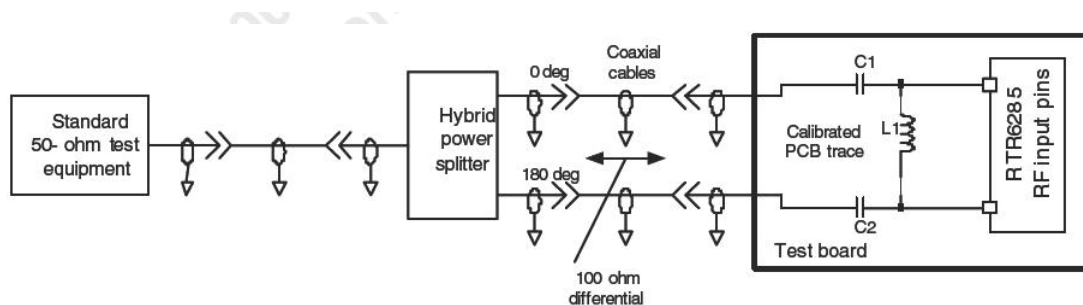

Figure 1.2-1
7. Performance specifications are based on measurements taken using a hybrid power splitter to create two 50-ohm outputs that are 180 degrees out-of-phase (Figure 1.2-1). The result is a 100-ohm differential input to the test board connected by two coaxial cables, with calibrated traces to the RTR6285/6280 input and its matching components. The matching circuit for IC-level testing is different than recommended handset designs. See the RTR6285/6280 Device User Guide for recommendations. Performance specifications listed in the table include the matching networks but not the hybrid splitter, coaxial cables, or calibrated PCB traces.